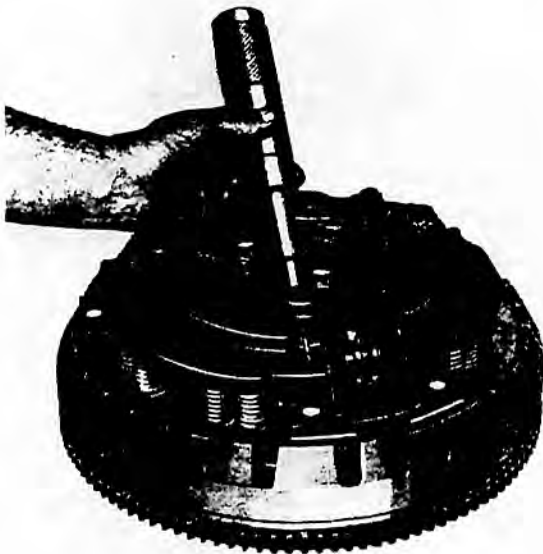

FIG. 22
Care must be taken to ensure that the Belleville spring and the driven plate are centralised. It is recommended that MF.159 Clutch Centraliser be used (see Fig. 22).
4. Remove the clutch centraliser and the shipping bolts (see Fig. 22).